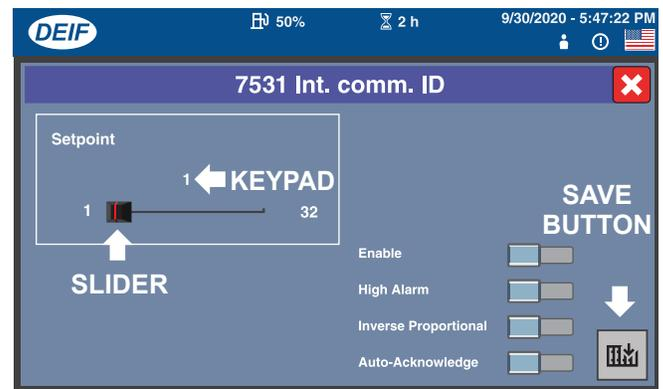
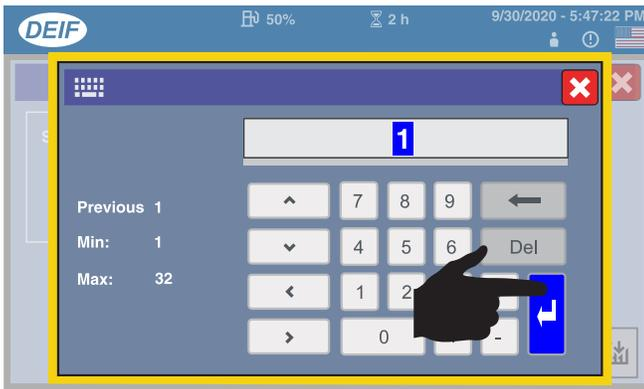

Figure 103. Internal Communication ID Screen (Parameter 7531)
Figure 104. Value Keypad Screen (Internal Communication ID)
- Verify that the **Internal Communication ID** screen (Parameter 7531) is displayed. See Figure 103.
The **Internal Communication ID** value is unique for each generator (Figure 103). A different numerical value must be entered for each generator. Enter a value of **1** for generator #1 and a value of **2** for generator #2.
- **Method 1** — On the **Internal Communication ID** screen, move the slider (Figure 103) to the desired value (1–32), then press the **Save** button.
- **Method 2** — Select the numerical value (Figure 103) located just above the slider and verify that the **Value Keypad** screen (Figure 104) is displayed. Enter the desired value on the keypad, then press the **Enter** key.